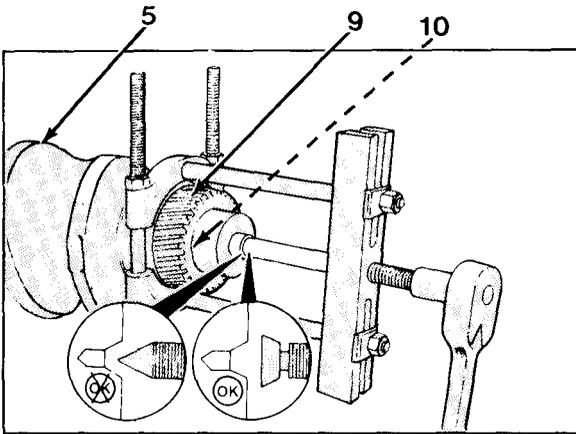

Figure 6-14
13. Using dial indicator, measure end play. End play limits (A, Figure 6-14) are 0.005 to 0.010 in. (0.13 to 0.25 mm).
1. Using heavy-duty puller, remove gear (9) from crankshaft (5, Figure 6-14).
2. Using locking pliers, remove dowel pin (10).